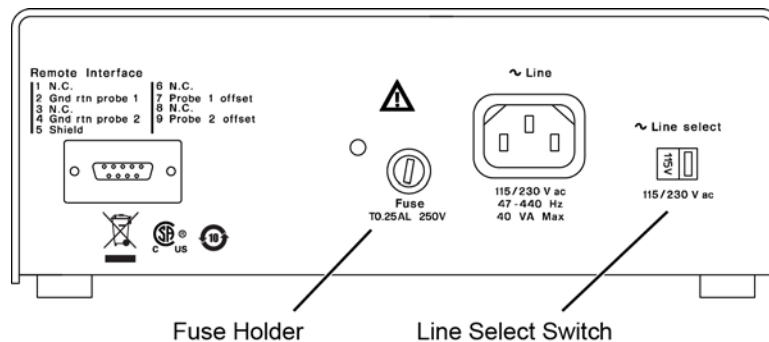

Figure 2 1143A Rear Panel
- 1 Locate the fuse holder shown in **Figure 2**. Gently push the fuse holder in using your finger or a flat-bladed screwdriver.